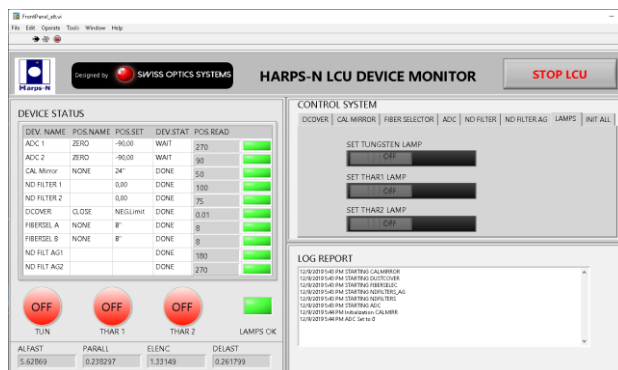

Figure 4 - LCU Device Monitor
3. On the *LCU Device Monitor* verify the lamps status (Figure 4)